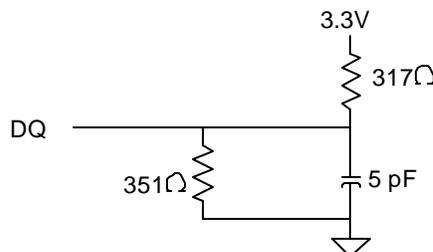

Fig.2 OUTPUT LOAD EQUIVALENT
6. Output loading is specified with  $C_L=5\text{ pF}$  as in Fig.2.